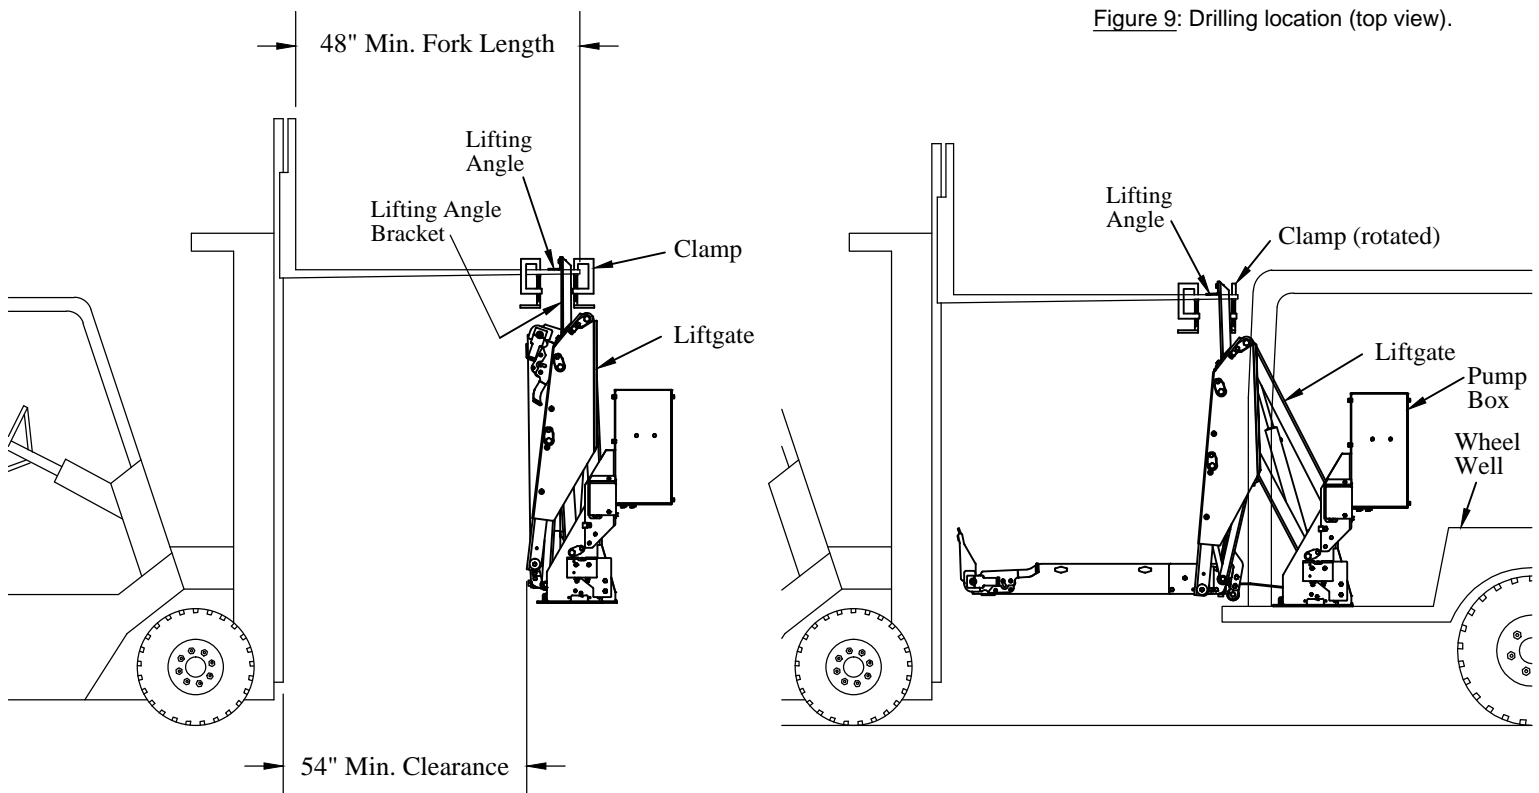

Figure 10: Lifting angle.
1. **Lift** the liftgate by the lifting angle with a fork truck (Figure 10).
3. **Place** clamps on the fork truck's forks to keep the liftgate from sliding on the forks (Figure 10).
4. **Position** the liftgate so that there is at least 54" between the liftgate and fork truck (Figure 10).